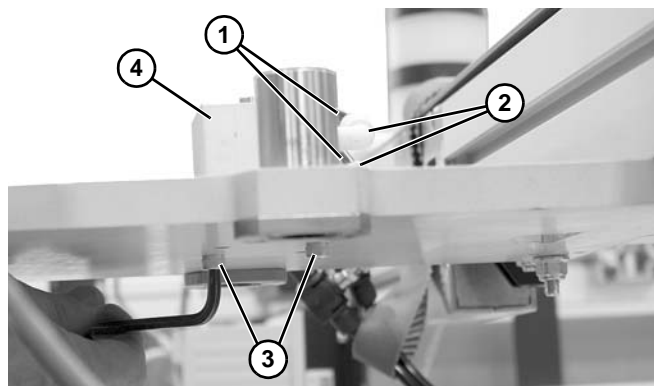

Figure 112
6. Remove tubing (**Figure 112, item 1**) from fittings (**Figure 112, item 2**).
7. Remove socket head screws (**Figure 112, item 3**) and lift cylinder (**Figure 112, item 4**).